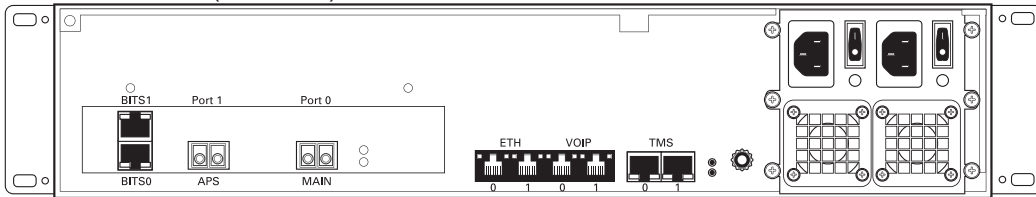

Figure 1.2 7800 Series Telecom Units Front and Rear Views
- One to sixteen 7800 Telecom Unit(s). See figure 1.2 on page 3.
- One 7800 series unit (TMGIP7800, TMG7800-TE, TMG7800-DS3, or TMG7800-STM1). See figure 1.2 on page 3.